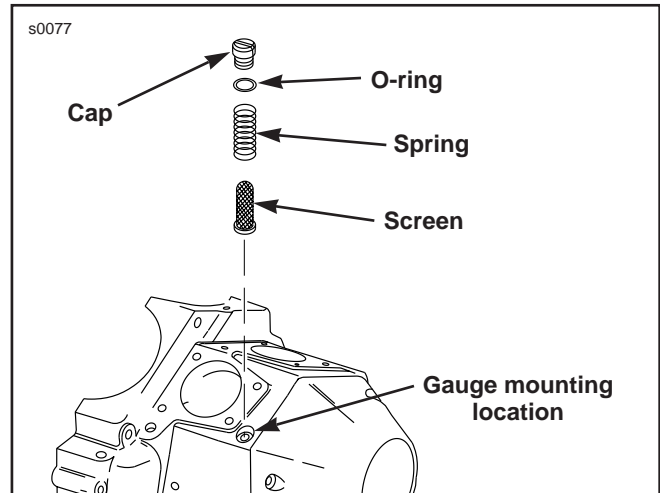

Figure 1. Gauge Mounting Location
1. See Figure 1. for mounting location on right side of gearcase next to rear tappet guide housing.